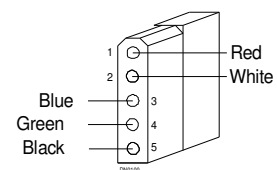

Figure 20
8. Pull control panel wiring harness through switch cutout in stile. Install loose connector (See Figure 20). Connect switch panel and reinstall with screws retained earlier.
5. Locate loose connector in parts box in header and install wires into connector (See Figure 20 Pg. 11).